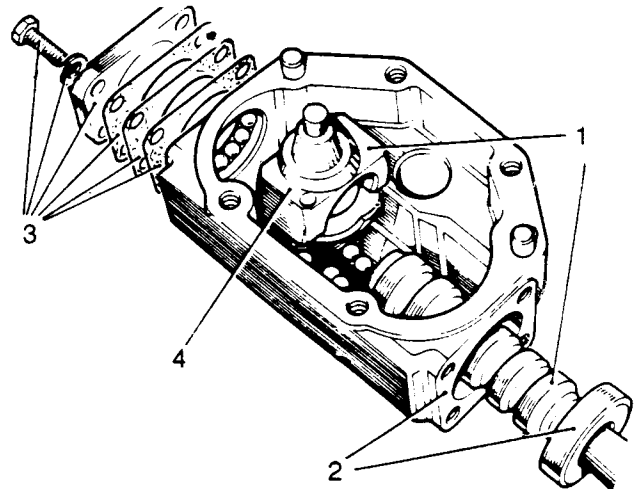

Fig L5.6
- (4) Refer to Fig L5.6. Fit the twelve 9,52 mm diameter ball bearings to the main nut and recirculating tube (4).
- (5) Replace the lower ball race, shims and end cover (3).
- (6) Wind the worm shaft through the main nut.
- (7) Refit the upper ball race and fit the box to the inner column (2).
- (8) Rotate the inner column to locate the main nut in the midway position on the worm shaft (1).